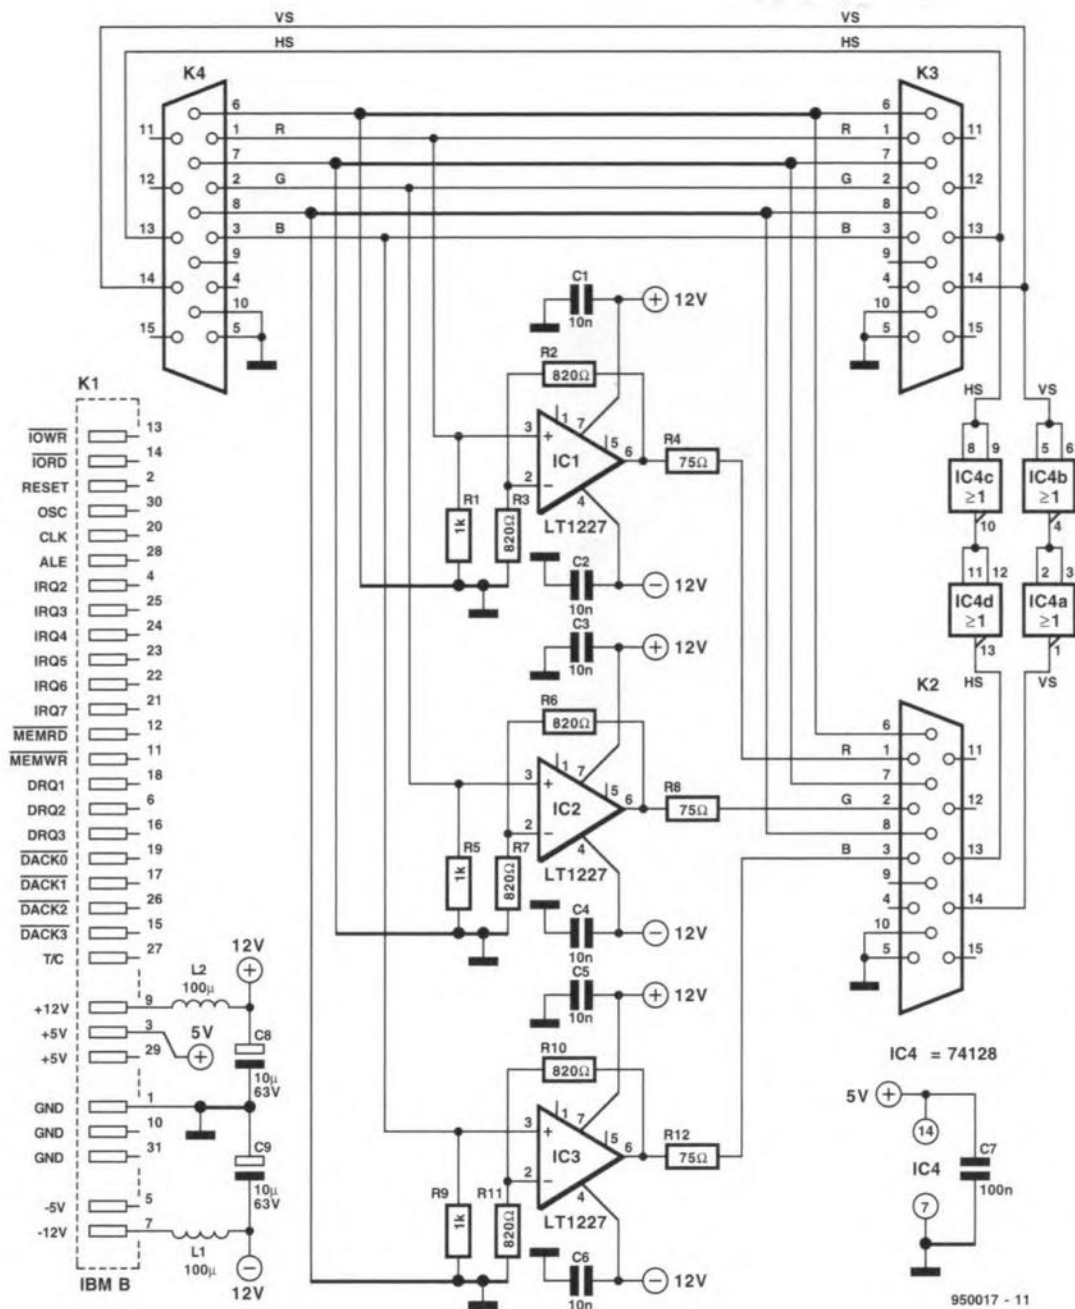

Fig. 1. This circuit allows you to connect more than one monitor to a PC.
The circuit diagram of the video distribution amplifier is given in **Fig. 1**. Because the card will normally be used with an IBM-PC or compatible, it takes the form of a PC insertion card. The advantages of doing so are (1) to avoid external cables; (2) to economize on a power supply; (3) to make sure that the amplifier is always co-sited with the PC. Those of you who use a non-IBM type of computer will have to build the card into a small enclosure, which should also contain a dedicated power supply.
Fig. 1. Going mobile? This is the PRC-2250-MIL special ruggedized 150-watt 1 to 30-MHz AM/CW/SSB transceiver from SGC. The rig features 100 user programmable channels, plus 644 factory programmed ITU channels for voice and data. Also suitable for RTTY, ARQ, FEC and Packet.